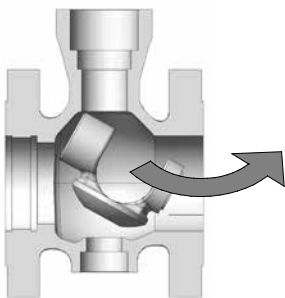

Figure 2a: Plug Removal
- 6.6 Remove the plug from the body. See figure 2a.